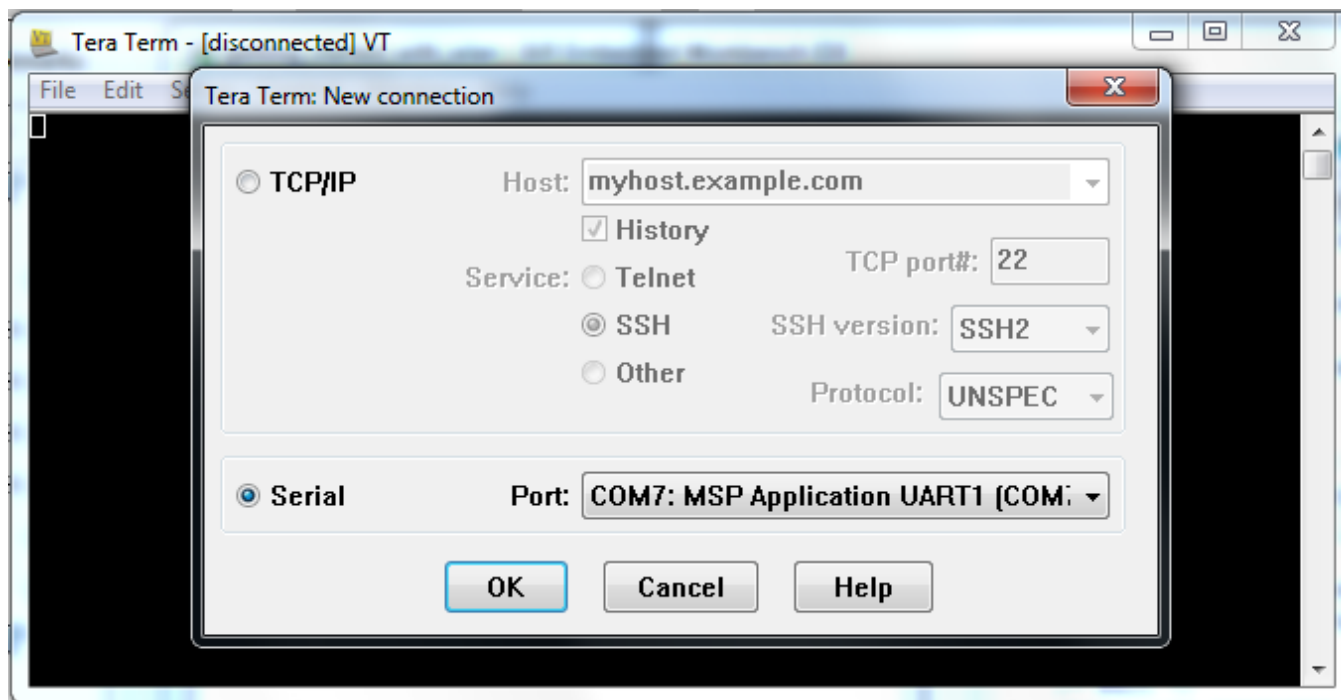

Figure 17. Launch Tera Term
7. Launch Tera Term, and create a new serial connection to the MSP430F5529 Launchpad COM port as shown in Figure 17. The baud rate should remain at 9600.